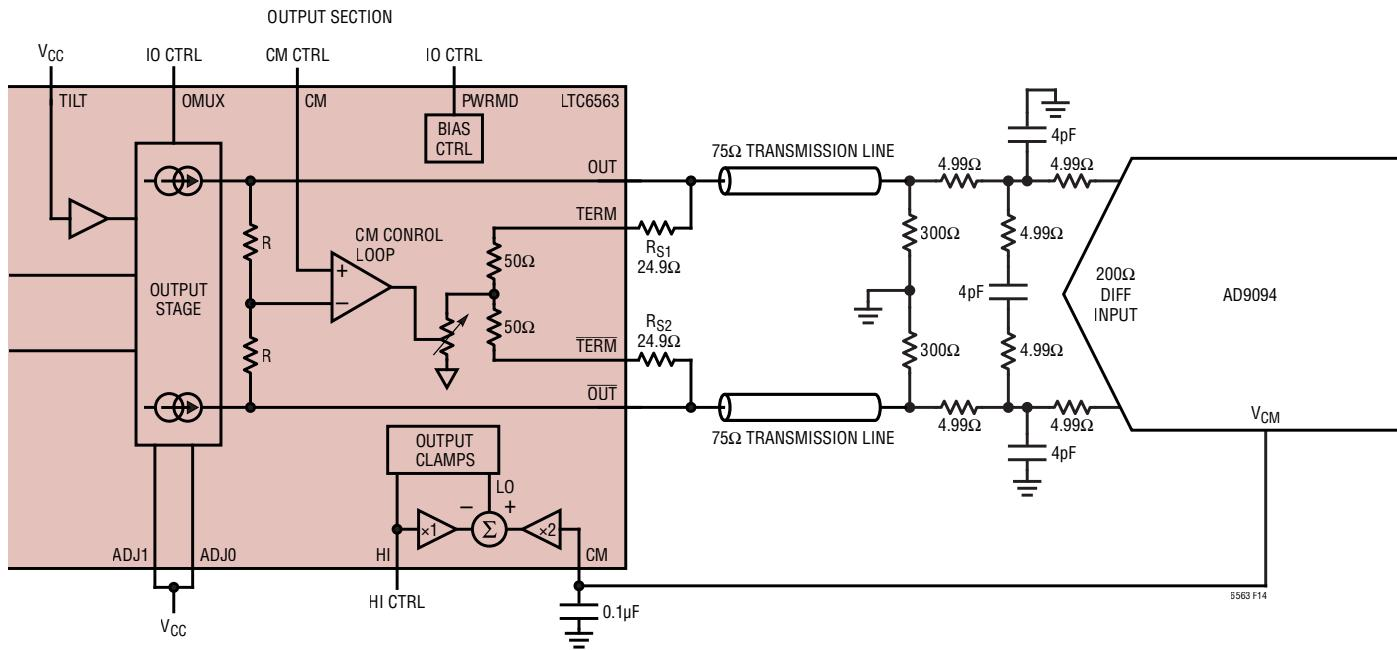

Figure 14. Reducing the Min CM Voltage with Grounding the External Load Midpoint
if ADJ 11 is to be used as shown in Figure 14 where the external loads ( $300\Omega$ ) mid-point is grounded.
With the modified schematic of Figure 14 the CM voltage is:
Table 7 shows the computed minimum CM voltage, TIA gain (RT), and ADC FS diff voltage swing for various ADJ settings applied to the Figure 14 configuration:
Here is a sample calculation of the values in Table 7, related to the Figure 14 schematic, for ADJ 00 as an illustration:
Table 7. CM Minimum Voltage and Other Operating Performance Values for Various ADJ Settings of Figure 14